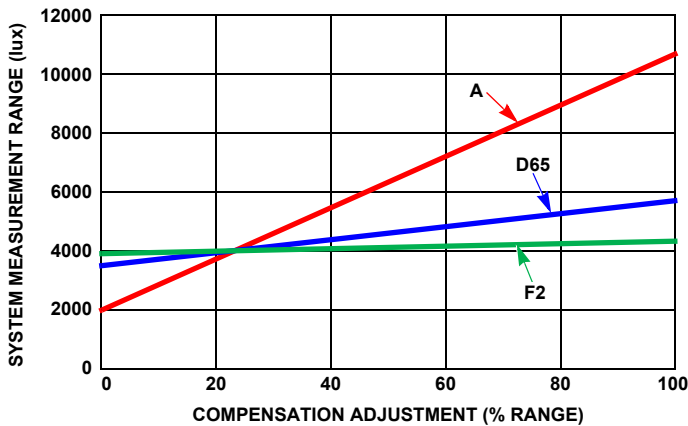

FIGURE 14. IR COMPENSATION VALUE
**Figure 14** is an example showing how to calculate the compensation for varying level of infrared components such as A, F2 and D65 (see Notes 11, 12 and 13 on page 11). With compensation adjustment from 0% to 100%. The crossing point is the IR compensation value which results in tighter variation with varying levels of infrared components. This setup system is a sensor without IR tinted glass and is illuminated with 3 different light sources. Since it is not under IR tinted glass, then reg0x2 setups like b7 = '0' and B[5:0] is at about 25% compensation adjust (%/range) which means about 40 codes.